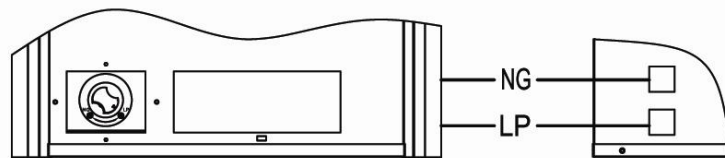

Figure 8
1. Remove bottom screw from cover plate, see figure 8, and rotate to expose gas selection valve.